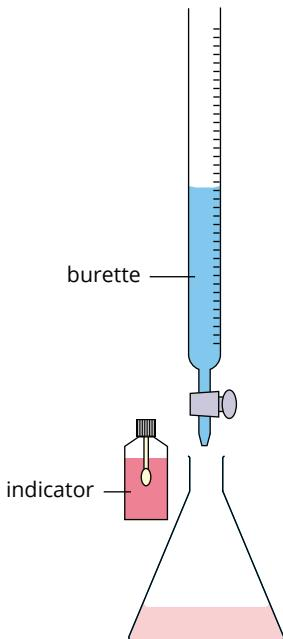

FIGURE 14.1.3 Titration from the burette into the conical flask containing the aliquot of the first solution.
- 3 The other solution is dispensed slowly into the conical flask from a **burette** until the indicator changes colour permanently (see Figure 14.1.3).